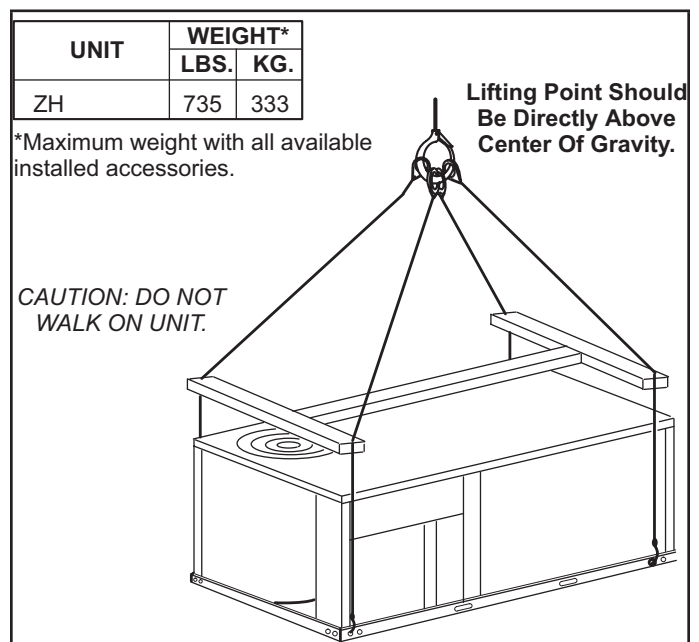

FIGURE 2
- 1 - Connect rigging to the unit base using both holes in each corner. See FIGURE 2.